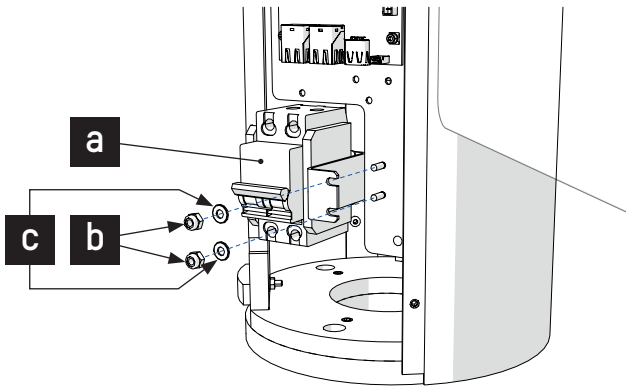

Fig. 33 - Belt replacement (Circuit breaker assembly)
3. Remove the fasteners, nuts **(b)** and washers **(c)** from the circuit breaker assembly **(a)** to loosen the assembled parts (Fig. 33);